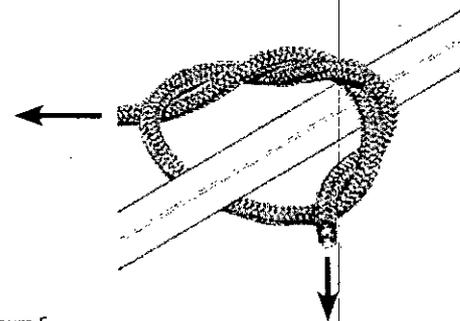

Figure 5
- a. Tie one end of the provided 9' rope to the link welded onto the stabilizer bar, just in front of the tree hugger. **Be sure your double knot is secure. SEE FIGURE 5.**
- b. Tie one end of each of the provided 15' ropes to the square tube side rails, just in front of the welded on tree blades. **Be sure your double knots are secure. SEE FIGURE 5.**